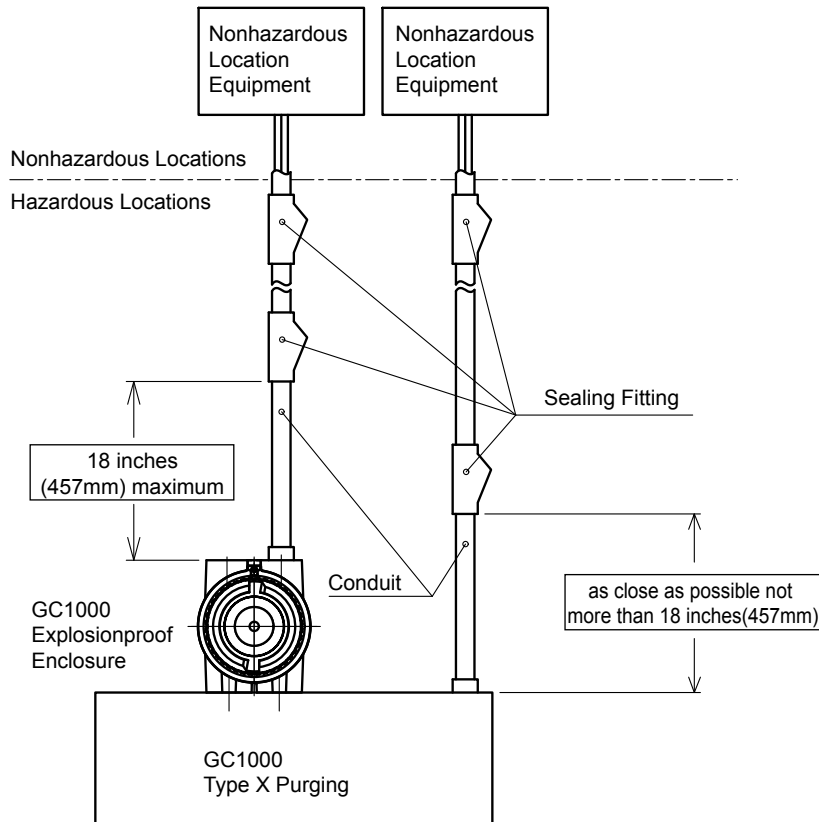

Figure 2.6
- In hazardous location, wiring for explosionproof enclosure and type x purged enclosure to be in conduit as shown in the Figure 2.6.